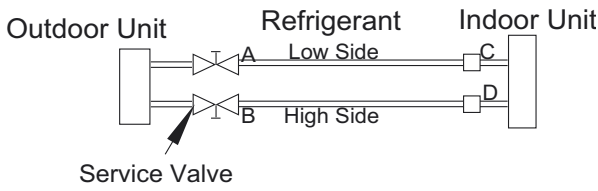

Fig. 16 – Service Valve
- Completely tighten all flare nuts and connect manifold gage charge hose to a charge port of the low side service valve. (See Fig. 16.)